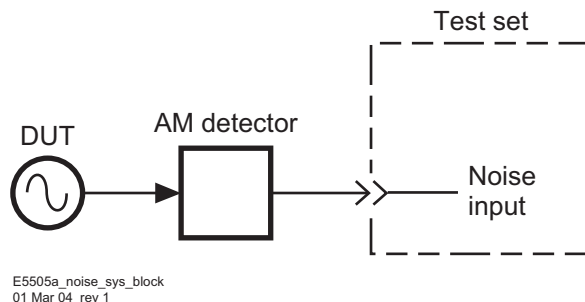

Figure 227 Double-Sided spur AM noise setup (method 2, example 1)
- 1 Connect circuit as shown in Figure 227, and tighten all connections. If the N5500A Option 001 or N5507A is available, use one of the connection diagrams described in “AM noise measurement block diagrams” on page 295.